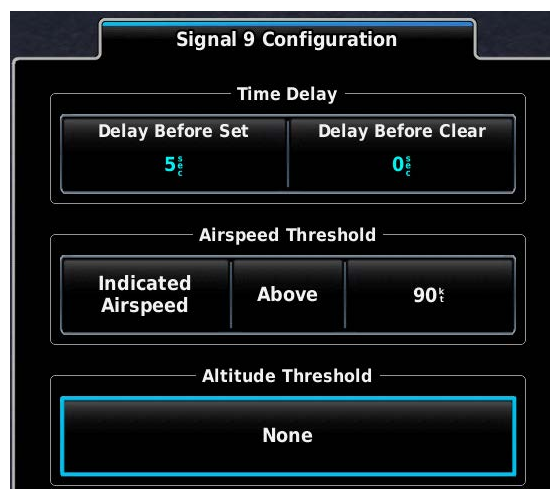

Figure I-4 Signal 9 Configuration
- An airspeed constraint can be added to Logic Signal 9 (Figure I-4) from the Settings Tab of the Engine and Airframe configuration menu. The result of this configuration is that Logic Signal 9 is “Clear” when below 90 Knots. A 5 second delay is added in this example, although this is not required.